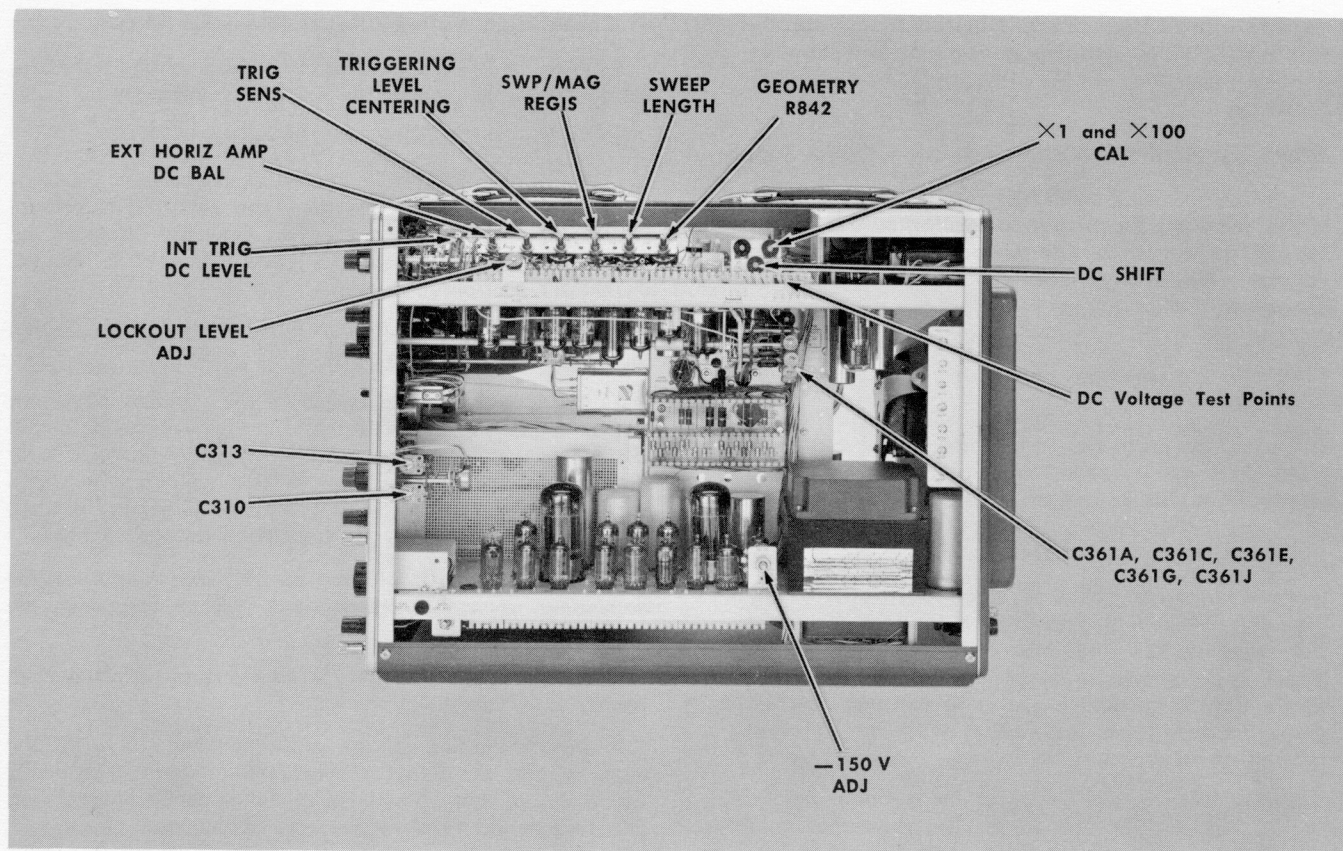

Fig. 6-1. Type 533/533A showing location of test points and adjustments.
g. Adjust the GEOMETRY control R842 (see Fig. 6-1) for the straightest possible vertical marker-lines running parallel to the 0-cm and 10-cm graticule. Note the amount of bowing.